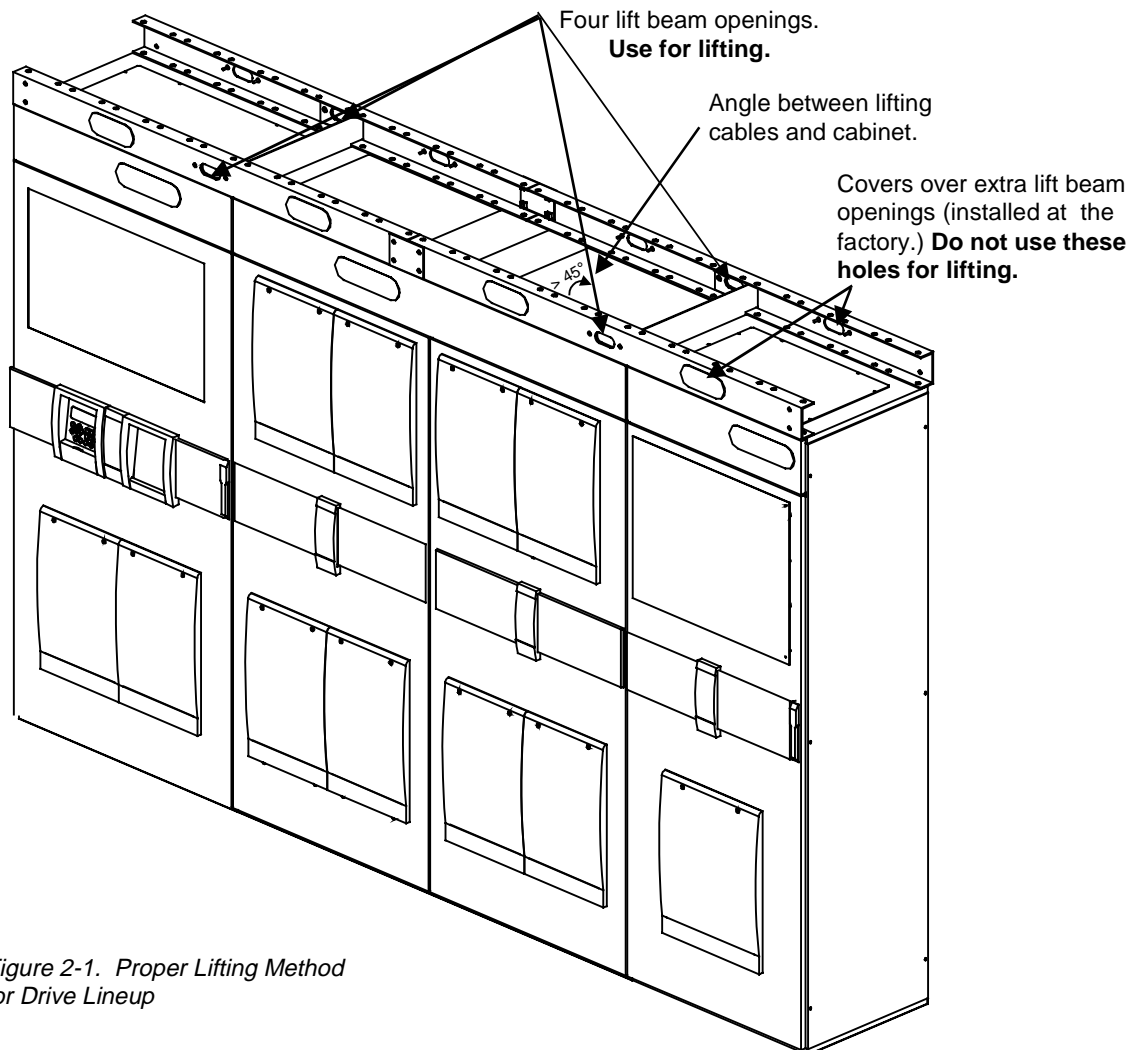

Figure 2-1. Proper Lifting Method for Drive Lineup
- Use at least four hooks for lifting (see Figure 2-1).